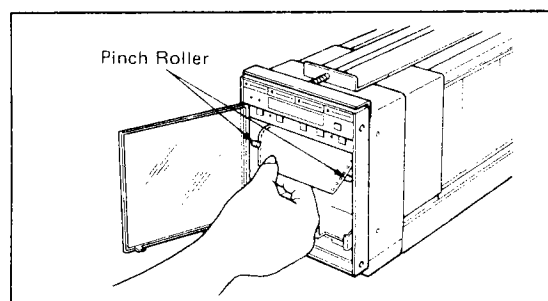

Figure 5-13. Pinch Roller.
- (3) Remove the chart from the pinch roller. (see Figure 5-13).